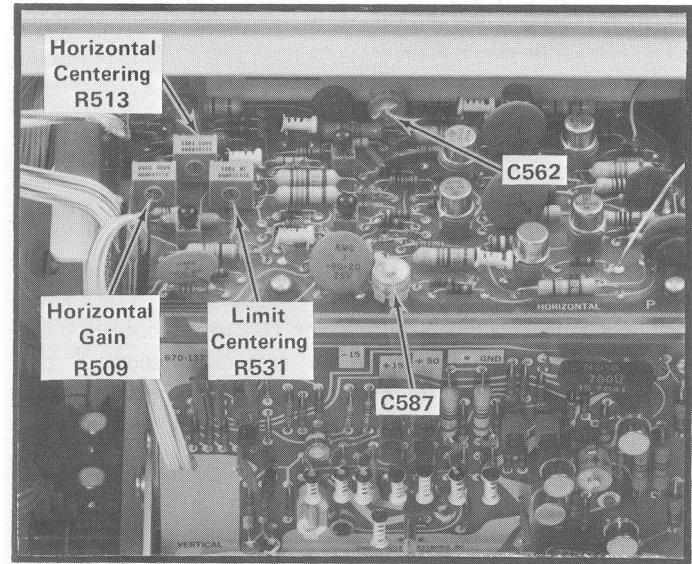

Fig. 5-7. Locations of Horizontal System Adjustments.
f. ADJUST—Horizontal Gain adjustment R509 (see Fig. 5-7) for exactly eight divisions of deflection between the second and eighth traces.
c. ADJUST—Horizontal Centering adjustment R513 (see Fig. 5-7) to position the trace to the vertical center line.
h. ADJUST—Limit Centering adjustment R531 (see Fig. 5-7) to match the DC levels of both waveforms.
- j. ADJUST—C562 and C587 (see Fig. 5-7) for one marker each two divisions over the center eight divisions (use low-capacitance screwdriver).